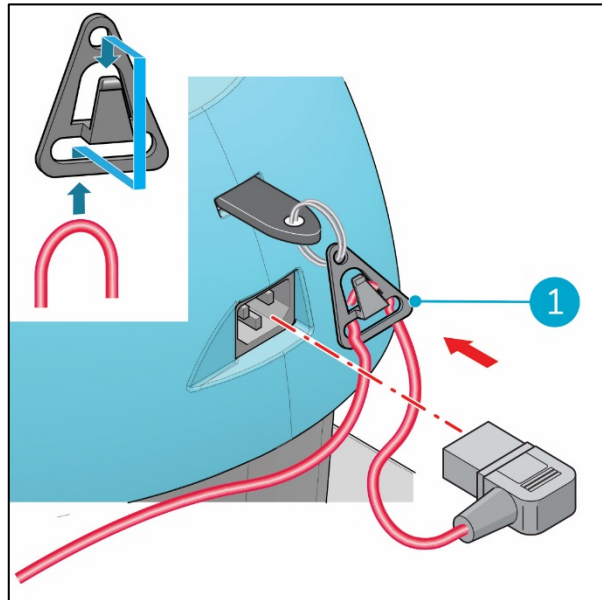

Figure 15
1. Make sure that the main power cable is placed in the cable strain relief (Figure 15, pos 1).